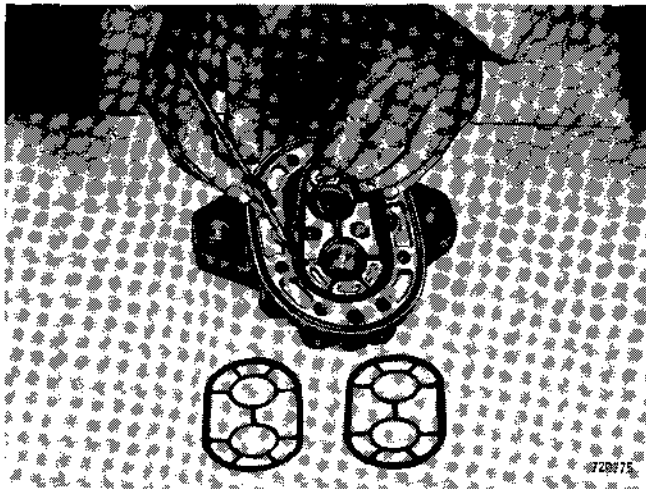

Figure 10 - Removing Seals
- Slip a sharp instrument under the diaphragm on the front cover and gently pry the diaphragm loose. Figure 9. Remove the springs and balls, nylatron gasket, protector gasket, and V-seal. Discard the gaskets and seals. Figure 10.